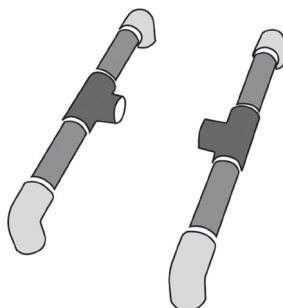

Figure 2: Turbine base sides. NEED Exploring Wind Energy: Teacher guide (pg 22)
- Connect 4 – PVC elbows (90°) to 4 – 6" length PVC pipe pieces and two PVC tees facing each other to make the Turbine base sides. (Figure 2)